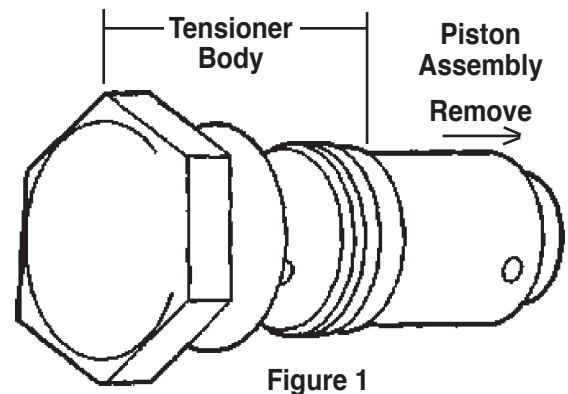

Figure 1
1. Remove the piston assembly from the body of the timing chain tensioner by pulling it out. See Figure 1.